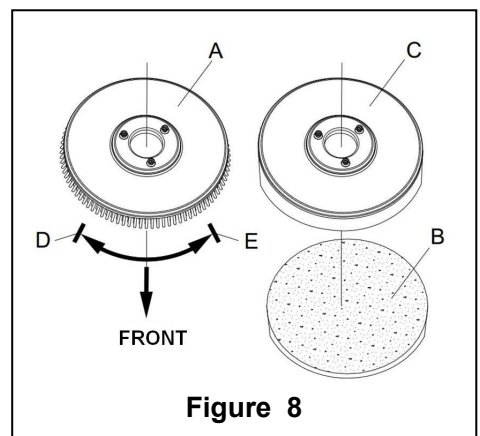

Figure 8
According to the type of floor to be cleaned, the machine may be installed with brush (Figure 8, A), or a pad-holder (Figure 8, B and C).
- (Only applicable to **AS430B** and **AS510B**): make sure the switch (41) is at the disconnecting (O) condition.
- Press down the handlebar (2) to lift the tank body (26).
- Put the brush (A) or the pad-holder (B – C) under the case.
- Use the handlebar (2) to lower the tank body (26) to come into contact with the brush or pad-holder.
- To install the brush/pad-holder automatically, turn the power switch (41) to the “I” position and press down the safety switch (1). Gently push the machine forward so as to allow the belt wheel at the bottom of the tank body to align with the brush or pad-holder which can then be installed. Then release the safety switch. If necessary, repeat this procedure until the brush/pad-holder is installed.
- If Step 5 above proves to be difficult, use the manual method by following the arrow head (D) to install the brush/pad-holder (as shown in Figure 8).
- To automatically unload the brush/pad-holder, turn the power switch (41) to the “O” position. Use the hand to hold the handlebar, and press the machine downwards until the guide wheel touches the floor and the brush/pad-holder hangs in the air. Turn the power switch (41) to the “I” position, and press down the safety switch to let the brush or pad-holder turn until the brush/pad-holder drops to the floor.
8. If Step No. 7 above proves to be difficult, use the manual method by turning the brush/pad-holder in the direction opposite to the normal turning direction, and it can be taken off. (as shown in Figure 8)